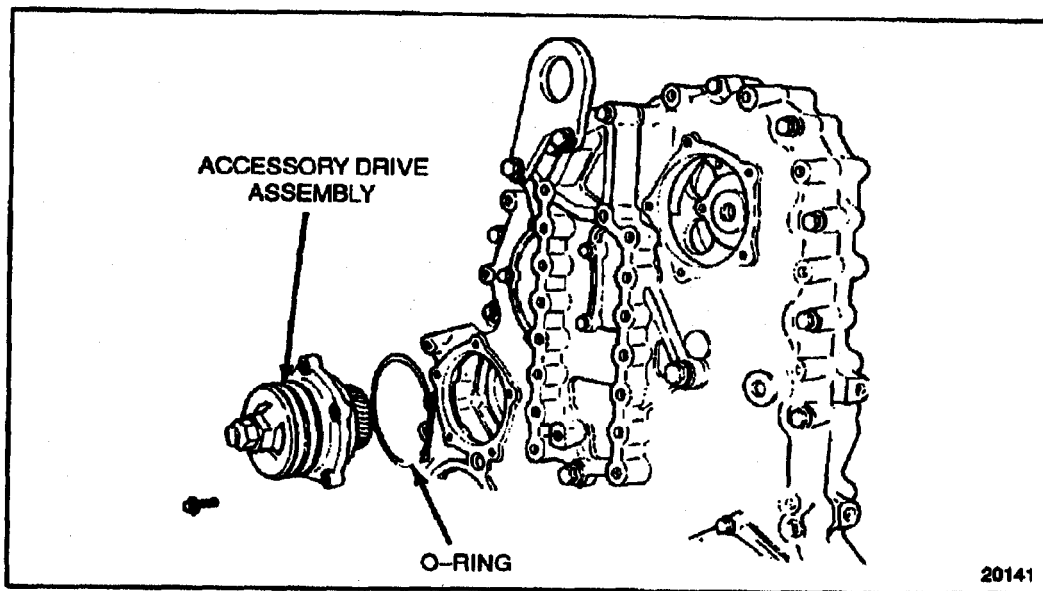

Figure 1-161 Accessory Drive Assembly
11. Loosen and remove the five bolts that secure the accessory drive assembly to the gear case cover. See Figure 1-161.
12. Remove the accessory drive assembly by pulling it straight out of the gear case cover to avoid damaging the rubber O-ring. See Figure 1-161.